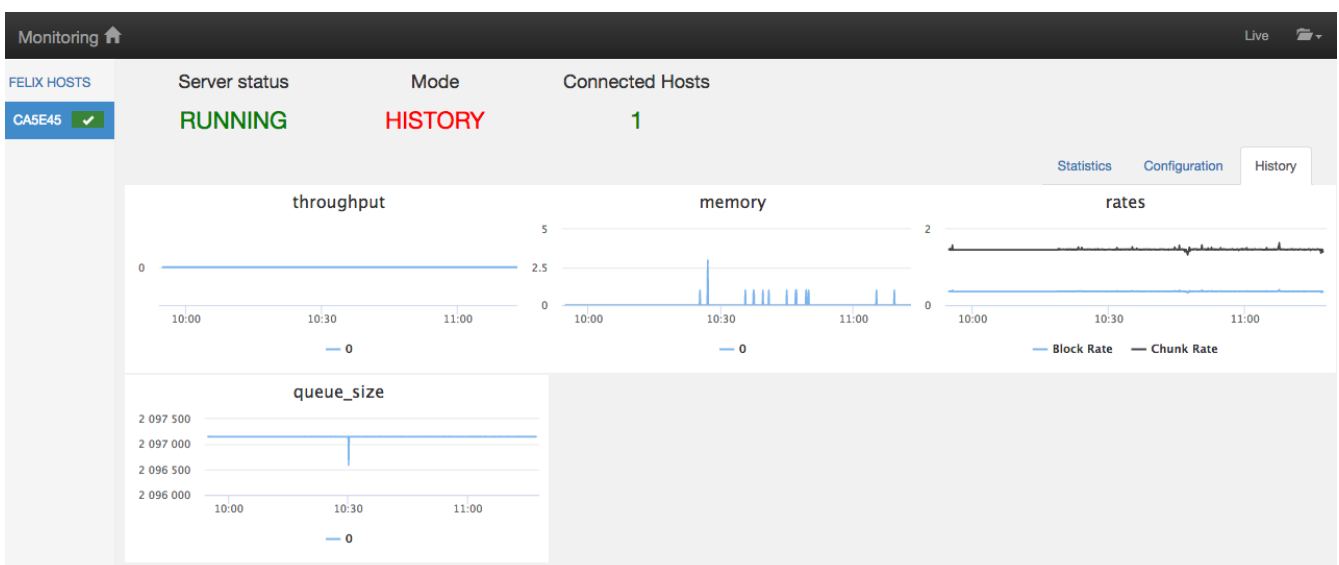

Figure 50. felix-web-mon history page.
- The History tab: shown only when a user clicks to load history data on the folder icon in the menu bar (Figure 50).